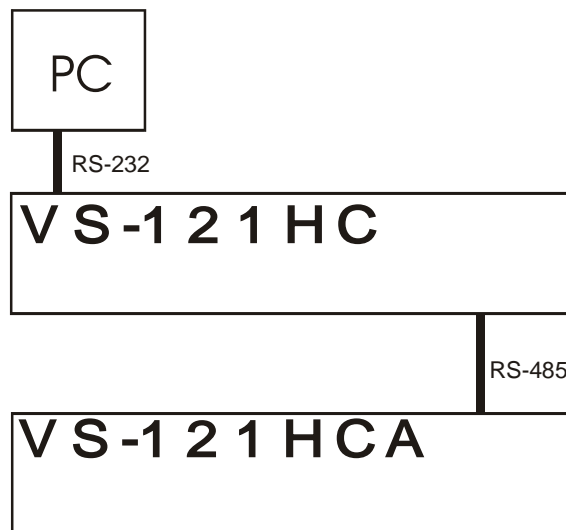

Figure 9: Operating the VS-121HCAA in Tandem with the VS-121HC
4. To control the **VS-121HC/VS-121HCA** system via RS-232 or via the Ethernet, connect the PC to the **VS-121HC**, as illustrated in Figure 9.